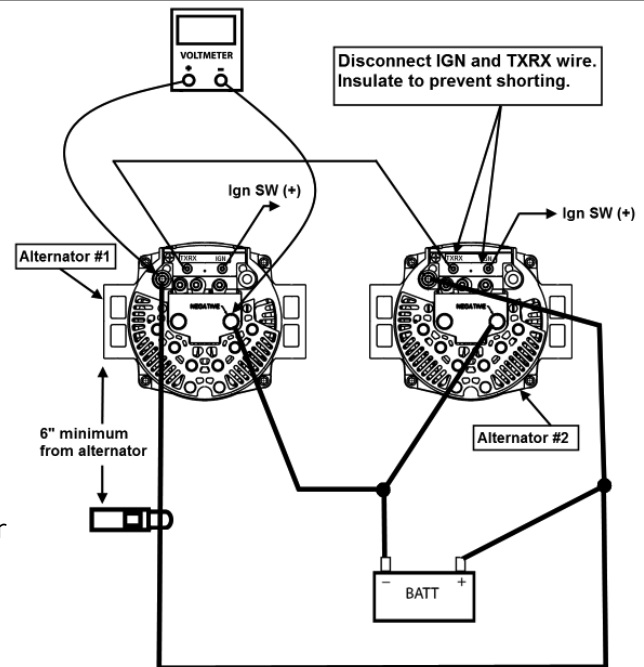

Fig 3
2) Connect voltmeter to Alternator #1 output terminals and ammeter to Alternator #1 positive output cable. Disconnect Alternator #2 ignition and TXRX wire and insulate to prevent shorting. See Fig 3 for proper connection of voltmeter and ammeter.
1) Keep engine running at 1500RPM and meters connected per Fig 3.